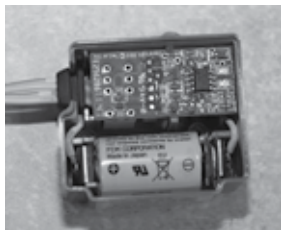

Fig 12
2. Separate the top from the base of the control box. Remove the 1/2 AA battery and replace with a new battery of identical type, making sure that battery polarity is correct (fig 12).